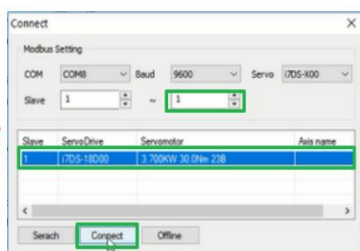

Figure 2
4. After the [Connect] window is displayed, select the searched drive address 1 or address 2, and then click the [Connect] button (Figure 2).